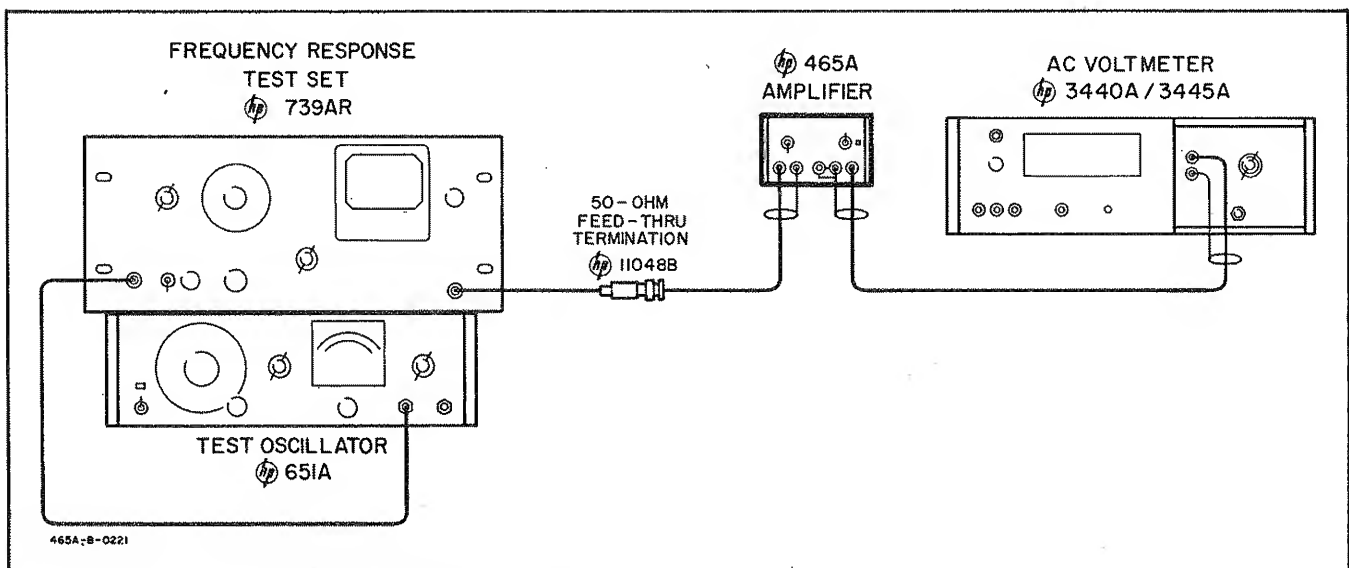

Figure 5-1. Frequency Response Check
a. Figure 5-1 describes the test arrangement recommended. A Test Oscillator (-hp- Model 651A), a Frequency Response Test Set (-hp- Model 739AR) and an AC Voltmeter (-hp- Model 331A and 3440A/3445A) will be required. -hp- Model 3440A/3445A will be used for frequencies from 50 cps to 100 kc; -hp- Model 331A will be used at all other frequencies.
b. Connect Model 465A as shown in Figure 5-1. Set GAIN to 20 DB.